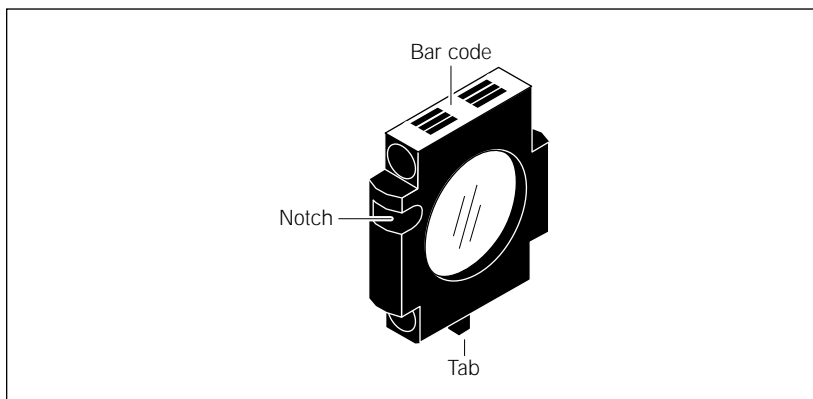

Figure 13-7. The optical filter and holder with the bar-code label attached to the top of the holder and the metal notch to the left.
1. Make sure a bar-code label is attached squarely to the top of the filter holder as shown in figure 13-7.
4. Hold the optical filter so that the bar code is facing up and the metal notch on the holder is on the left (figure 13-7).